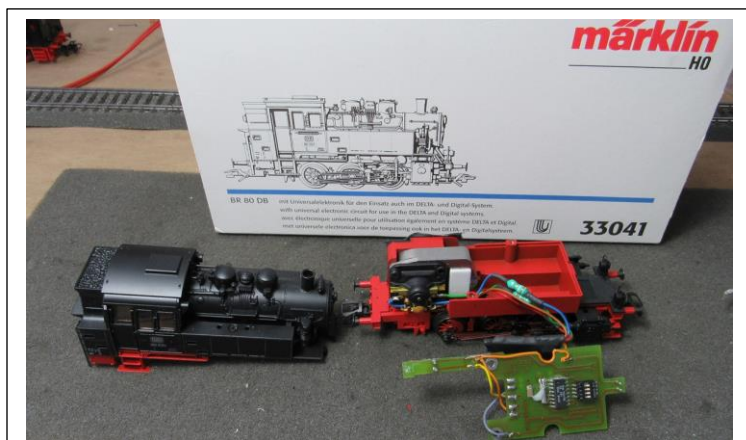

Fig. 3 – Circuit board and 60906 decoder.
I had converted this locomotive years ago with the Marklin 60906 decoder (Fig. 3), so in theory, all I needed to do was wire up the Telex couplers and be done, (insert sarcastic comment #2 here). What could be simpler!
The second series of events occurs when the second (or opposing) terminal station detects a train arrival. Events will be triggered by the contact '27 (55)'. Equal to the Station 1 events (displayed in the previous Fig.), two similar events are created for Station 2. I will only display the event 'stn2 lok1 stop' (Fig. 3) because the lok2 is located at Station 1 as dictated by the prior events using contact '20 (52)'.